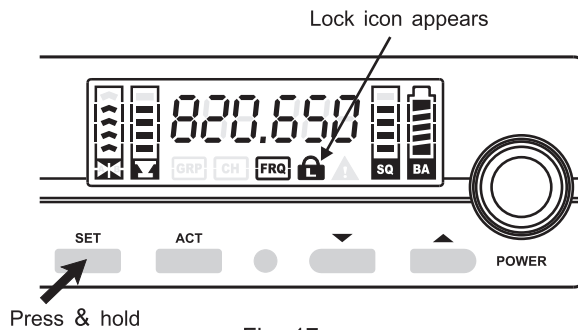

Fig. 17
- (1) Press and release the 'SET' button until SQ cursor starts to blink denoting it is ready to accept parameter change.
- (2) During blinking, press ▼ or ▲ button to increase or decrease one squelch level.
- (3) Decreased SQ level setting has higher sensitivity level resulting in longer reception range.
(F) LOCK Setting. Fig. 17 :